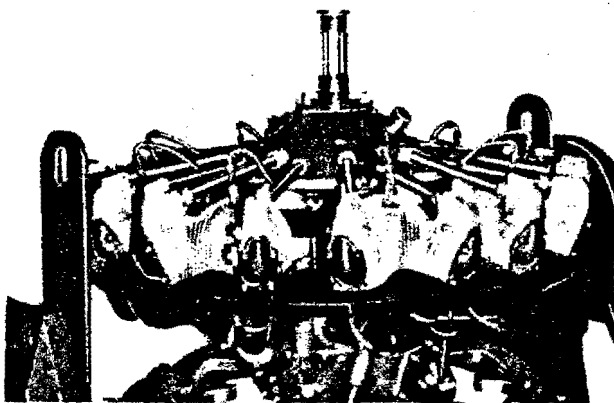

Figure 4-7. Engine in Stand
e. Lower the engine into R85-S-62000 Engine Stand equipped with R85-P-31300 Mounting Plate and secure it with the bolts, lockwashers, and nuts [Figure 4-7]. Remove the bags of dehydrating agent which are secured to the cylinders and remove the humidity indicator.